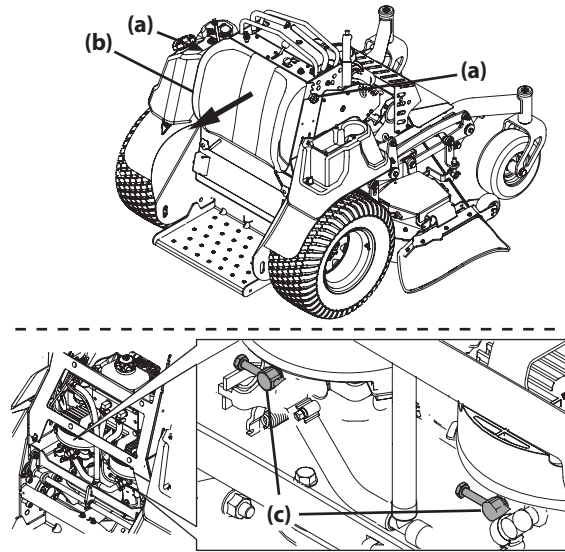

Figure 25
1. Loosen the two star knobs (a) securing the leg pad (b) to the mower (Figure 25).